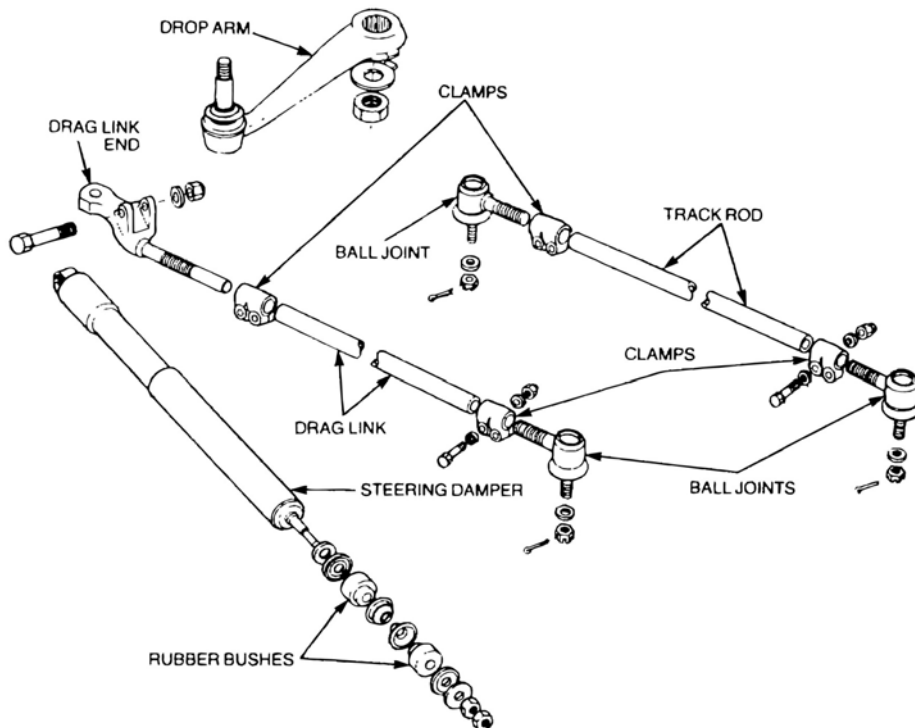

Figure 17 Drop Arm, Steering Linkages and Steering Damper
**50. Steering Linkages and Damper.** As illustrated in Figure 17, a drop arm is secured to the splined portion of the sector shaft which protrudes from the bottom of the steering box and transmits the sector shaft movement to the left-hand front wheel via the drag link. One end of the drag link is connected to the ball joint on the drop arm, while the ball joint end of the drag link is connected to the steering arm on the front of the left-hand steerable drive-end. A track rod, with ball joints at both ends, connects the right-hand steerable drive-end with the left-hand steerable drive-end causing the wheel on the right-hand side to turn in unison with the left wheel. A steering damper is installed between the drag link and the chassis to dampen or absorb any shock loads which may occur while the vehicle is negotiating a turn.